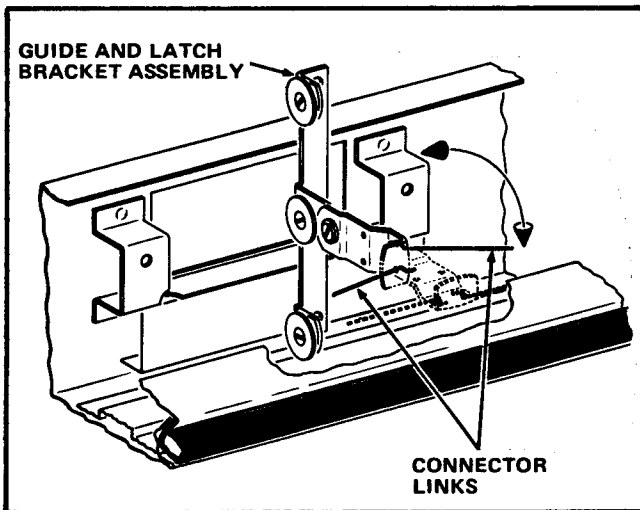

FIGURE 14
4. Rotate the Guide and Latch Bracket Assembly 90° and carefully remove the Assembly from the Connector Links. See Figure 14.